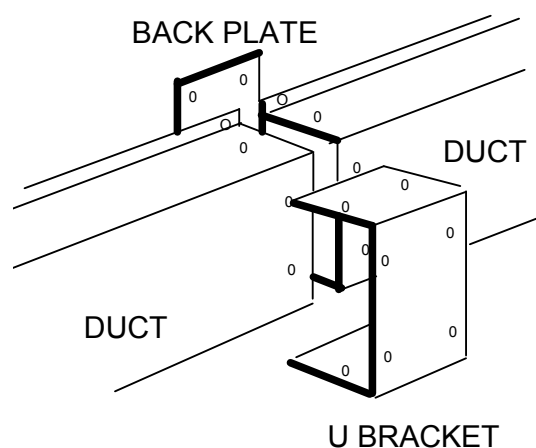

Figure 47
4. Measure the height between the ends of the top and bottom elbows. Add 60mm to the height and prepare a length of straight duct using 490mm or 860mm (or both) ducts (supplied) to the dimension achieved. Connect the two ducts together (if necessary) using 'U' brackets and backing plates (see **Figure 47**).
6. From inside, measure the gap between the two free ends of the flue ducts and attach further sections (or part sections cut to size) using the back plates and U brackets provided (see **Figure 47**).